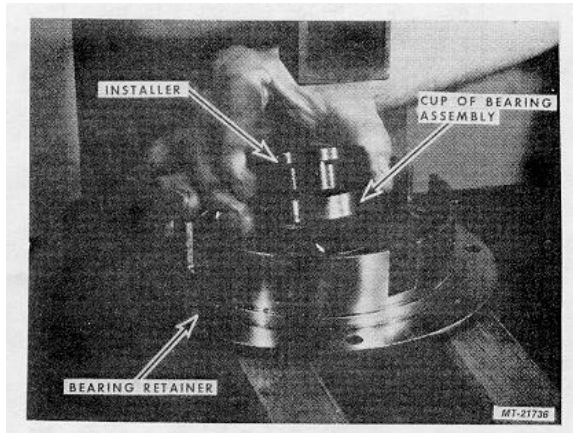

Fig. 44
7. Position Installer SE-2782-2 on the cup of Bearing Assembly and press down until the Installer bottoms, Fig. 44.